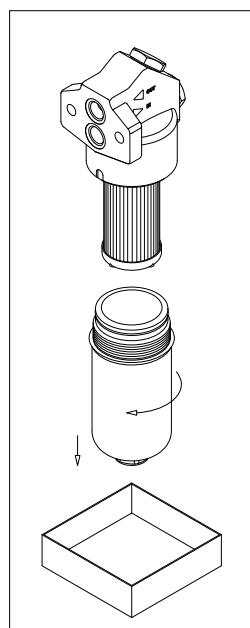

fig. 16
- (Fig. 16) If no drain plug is provided, unscrew the filter bowl after placing a vessel to collect the operating fluid